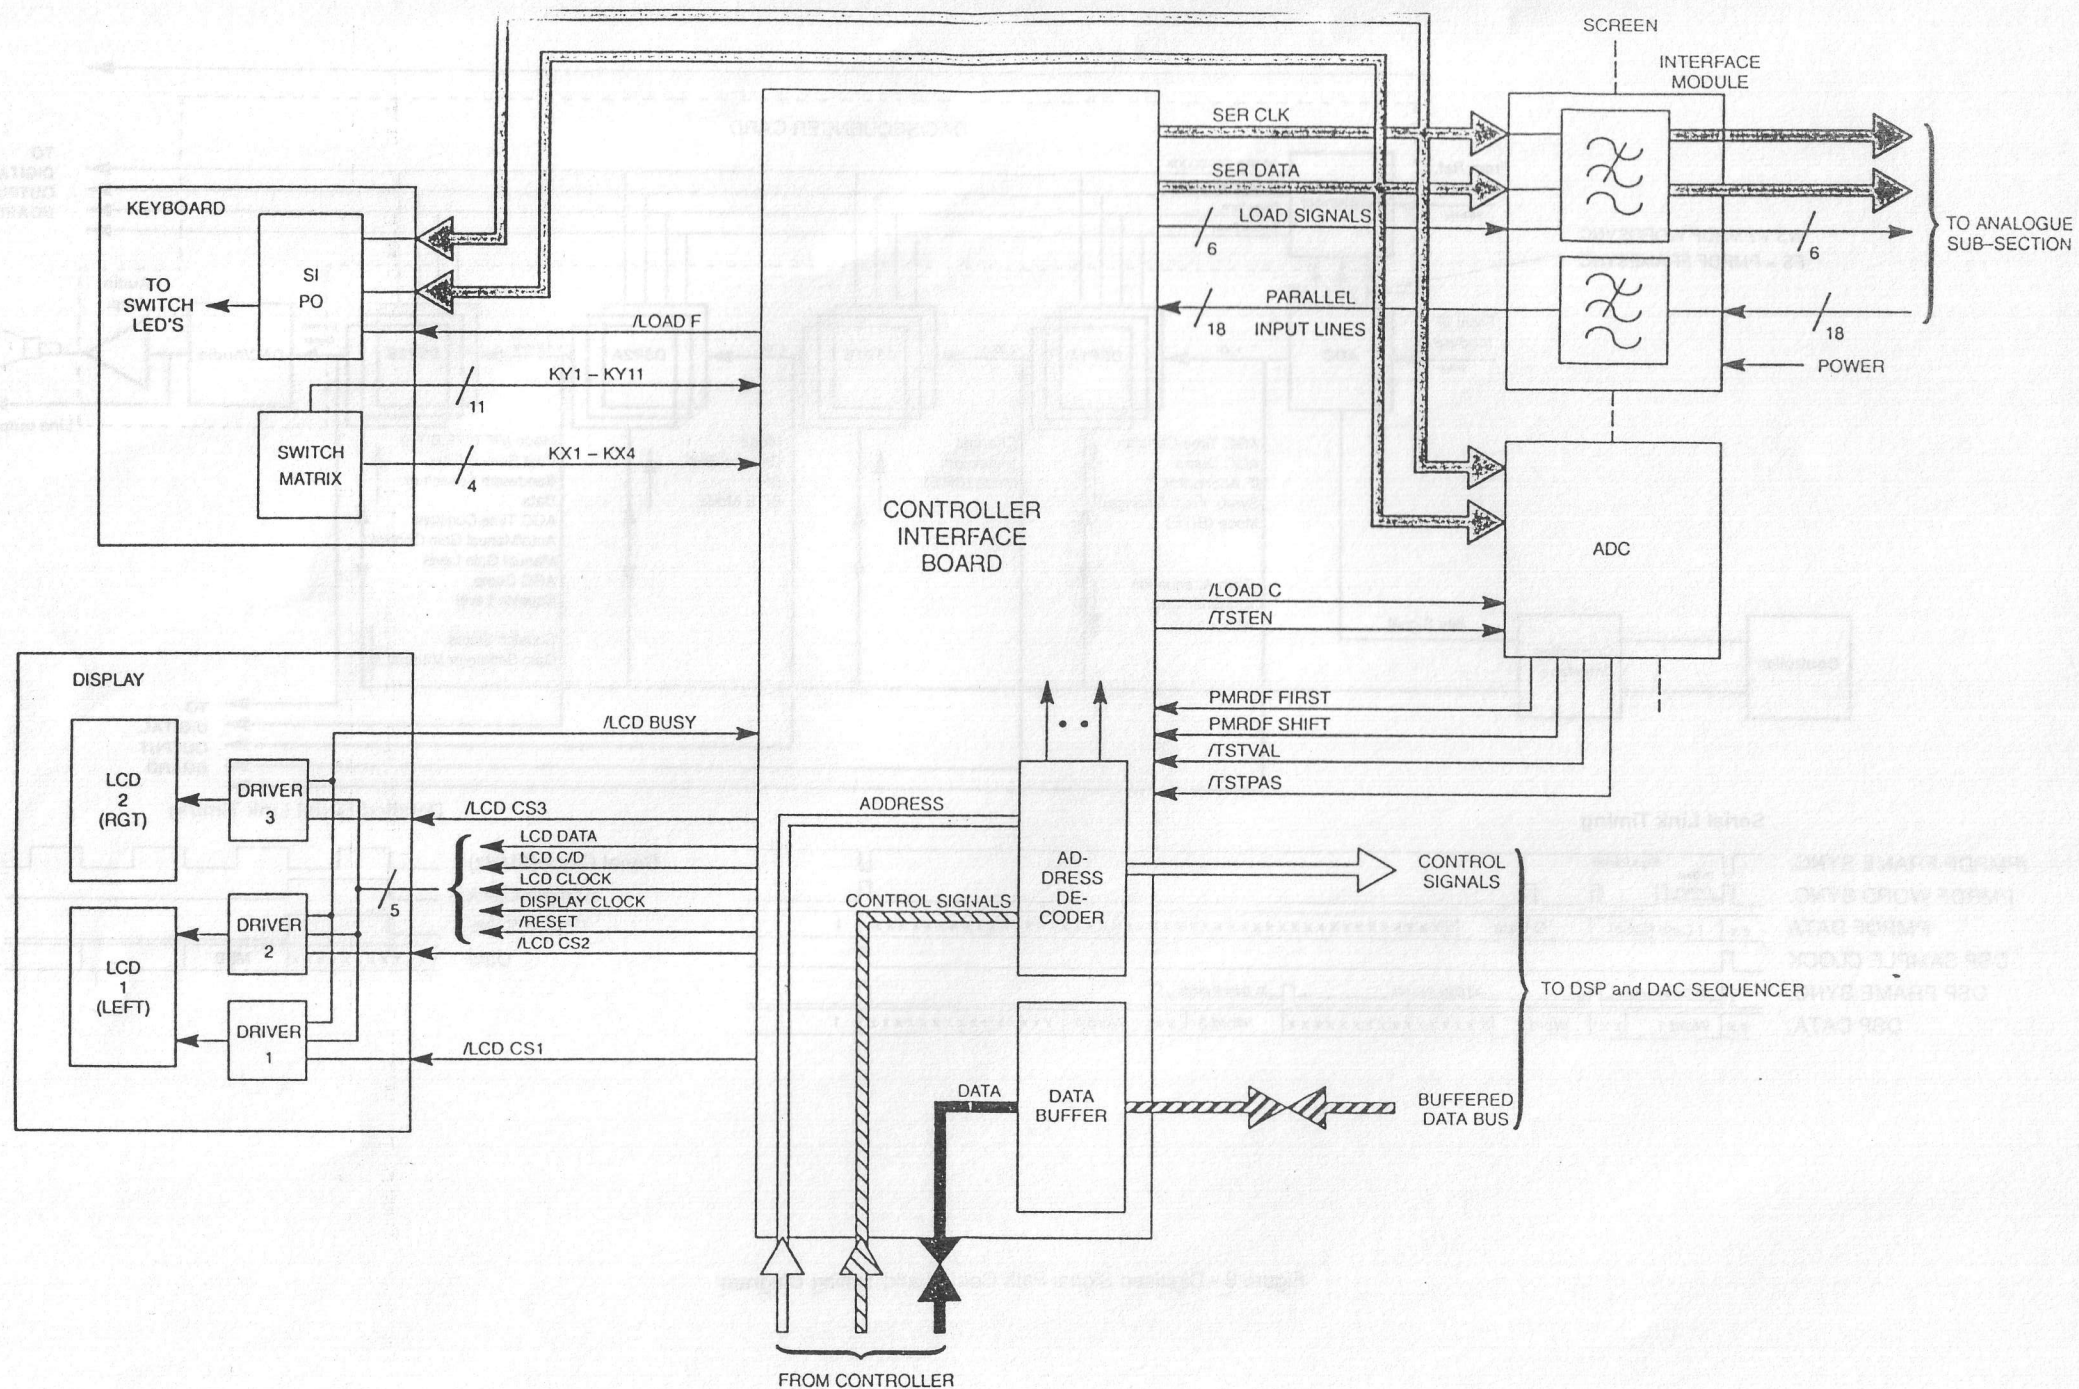

Fig 2 Data Bus Diagram Showing Detail of Controller Inter
- Figure 2 Data Bus Diagram Showing Detail of Controller Interface
The ADC and DAC/Sequencer boards form the beginning and end of the digitised signal path. The ADC receives the 2nd IF analogue signal from the IF module at its input and feeds DSP1A with a digitised baseband IF. The TSTEN and TSTVAL/TSTPASS lines between the controller interface and the ADC (shown in Figure 2) are the BITE enable and BITE result lines respectively. The PMRDF FIRST and SHIFT lines are not currently in use. Both the ADC and the DAC/Sequencer receive their main clocks directly from the Reference module, 80 MHz for the ADC and 40 MHz for the DAC/Sequencer.
The keyboard and display interfaces are shown in more detail on Figure 2. The keyboard lines transmit the switch matrix to the controller interface where a scanner interprets the matrix to find out which key has been pressed. The display interface consists of a serial bus to each of the three LCD drivers and is described in more detail in Chapter 6.12 - Front Panel Assembly.
The controller communicates with various modules in the STR8212 via a serial interface bus. This bus is shown in more detail on Figure 2 and comprises three parts, the serial clock, the serial data and the load lines. From the Controller Interface board there are eight load signals, six of which pass through the Interface module on route to the analogue sub-section, one goes to the ADC module and one to the keyboard. The serial clock and serial data are each single lines from the Controller Interface board to the Interface module, ADC module and the keyboard. In the Interface module the serial clock and serial data lines are each split into two, one for the fast path and one for the slow path as the filtering requirements are different for the two frequencies involved.